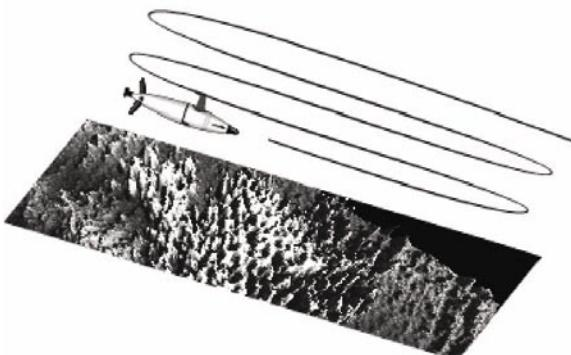

Fig. 2. AUV swimming a lawnmower pattern over a reef (shown as a side scan sonar image).
In 2002, an AUV known as “Fetch” was used at the *Aquarius* site to gather data on the oxygen concentration and pH of the water around the reef. These snapshots of data allowed scientists to determine how photosynthesis, respiration, and weather affect how much oxygen there is on the reef over the course of a day or a season. The AUV must swim complex patterns around the reef (see Figure 2) to gather underwater data to describe variations in oxygen and pH conditions (see Figure 3).
4. (Optional) For more advanced students, refer back to Figure 2 and try the computations in “What a Drag!”